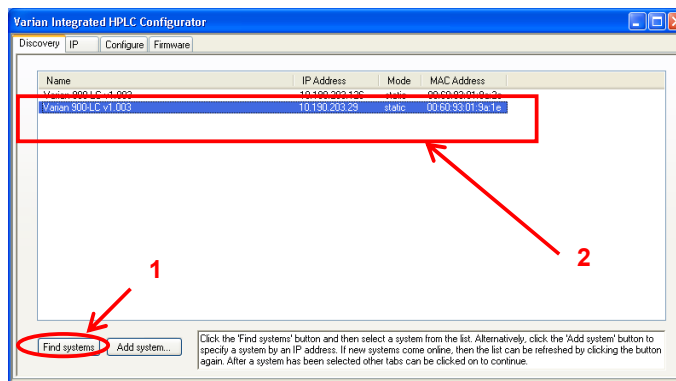

Figure 20: Discovery page of the Service Configurator
2. Once the configurator has opened, click on the **Find systems** button (1) and wait to see which systems appear. Select the system (2) that you want to upgrade (Figure 20).